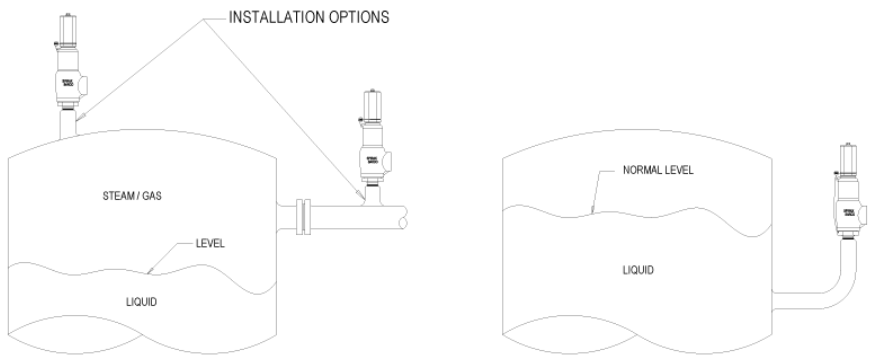

Figure 02
- Safety and Relief Valves intended for relief of compressible fluids (gases or vapors) shall be connected to the vessel in the vapor space above any contained liquid or to piping connected to the vapor space in the vessel which is to be protected. Safety and Relief Valves intended for relief of liquids shall be connected below the normal liquid level. (ASME code Section VIII, UG135 (a)) **(Figure 02)**.